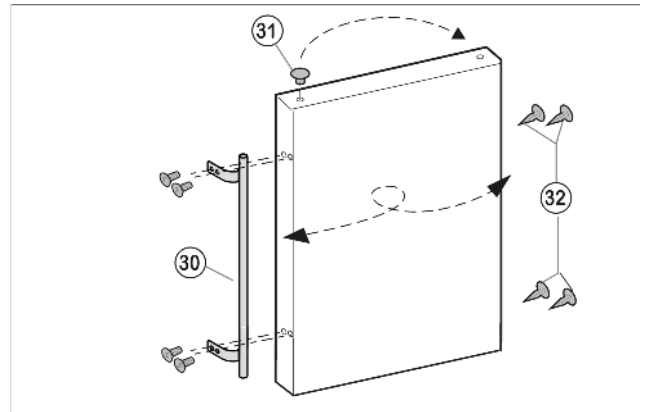

Fig. 20
- Pull plugs Fig. 20 (31) out of the door bearing bushes and move them to the other side.
- Detach the door handle Fig. 20 (30) and plug Fig. 20 (32) and move them to the opposite side.